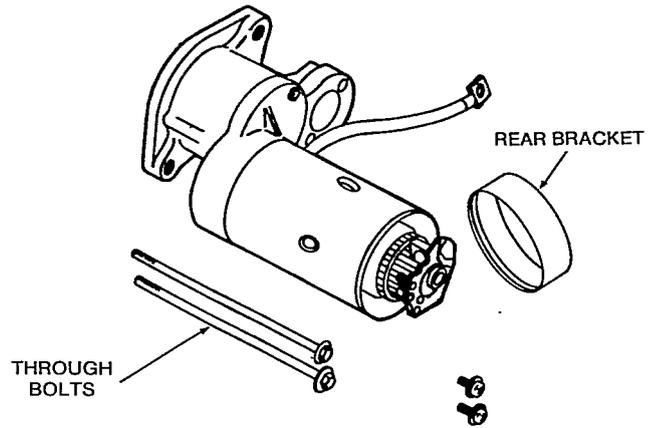

FIGURE 61a. REMOVING REAR BRACKET
3. Remove the two through bolts and brush holder retaining screws. Remove rear bracket (Figure 61a).